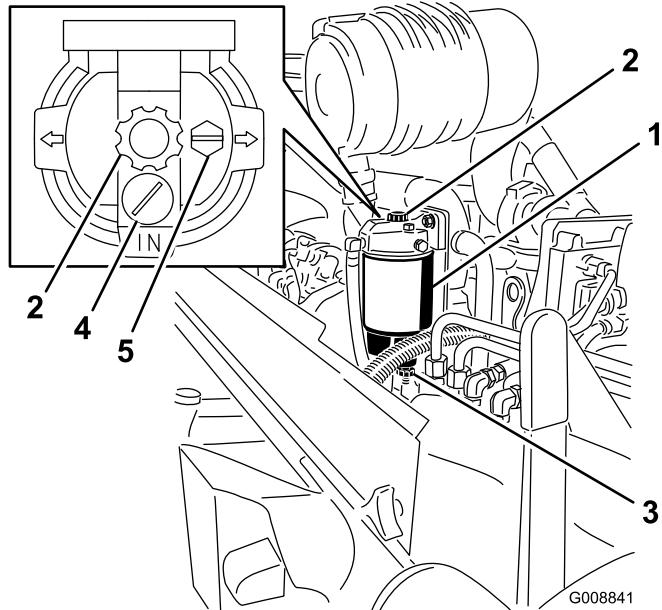

Figure 62
1. Place a clean container under the water separator (Figure 62).
2. Open the drain plug and operate the pump to drain off contaminates (Figure 62).
2. Drain some fuel by loosening the vent plug and opening the drain plug (Figure 62).